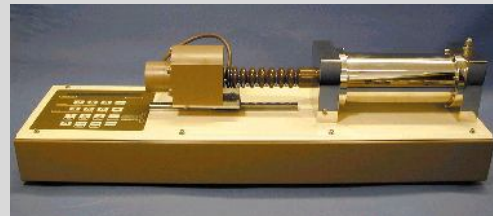

Fig. 8 1000cc Advanced Pressure/Volume Controller (ADVDPCC)
- 1000cc Advanced Pressure/Volume Controller (for application of pore air pressure and measurement of air volume change) as in Fig. 8.